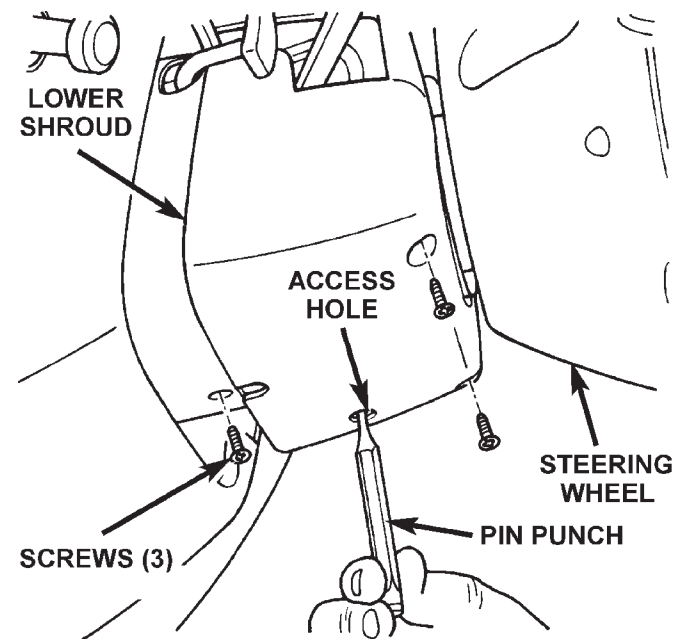

Fig. 13 Steering Column Shrouds Remove/Install
(1) Turn the steering wheel until the front wheels are in the straight-ahead position before starting the procedure.
(2) Disconnect and isolate the battery negative cable. If the airbag has not been deployed, wait two minutes for the system capacitor to discharge before further service.
(3) Remove the driver side airbag module as described in this group.
(4) If the vehicle is equipped with the optional vehicle speed control, unplug the speed control switch wire harness connector in the steering wheel.
(5) Remove the nut that secures the steering wheel to the steering column upper shaft.
(6) Remove the steering wheel with a steering wheel puller (Special Tool C-3428B).
(7) Remove the steering column opening cover as described in Group 8E - Instrument Panel Systems.
(8) If the vehicle is so equipped, move the tilt steering column to the fully raised position.
(9) Insert the key in the ignition lock cylinder and turn the ignition switch to the On position.
(10) Insert a small screwdriver or pin punch through the access hole in the lower steering column shroud and depress the ignition lock cylinder retaining tumbler (Fig. 13).